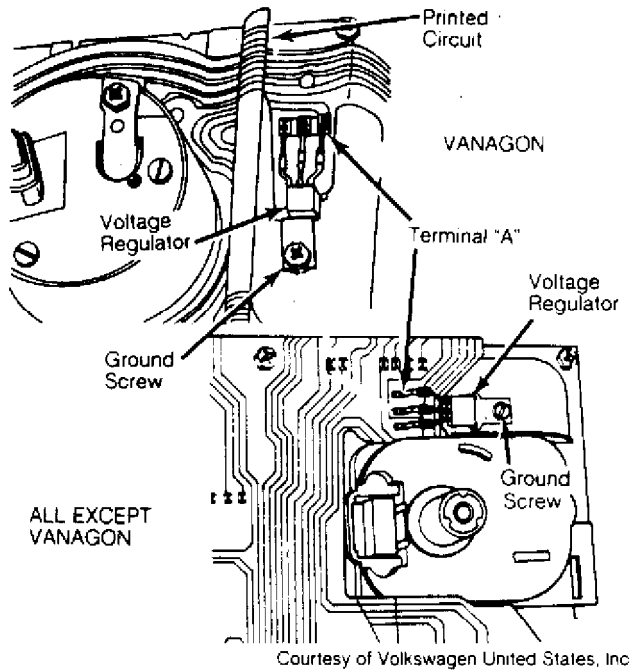

Fig. 1: Testing Voltage Regulator
3) Turn ignition on. Connect voltmeter negative lead (-) to center terminal of regulator. Connect positive lead (+) to terminal "A". See Fig. 1. Meter reading should be 10 volts with an allowable tolerance of .5 volt. If voltage reading exceeds tolerance, replace voltage regulator.